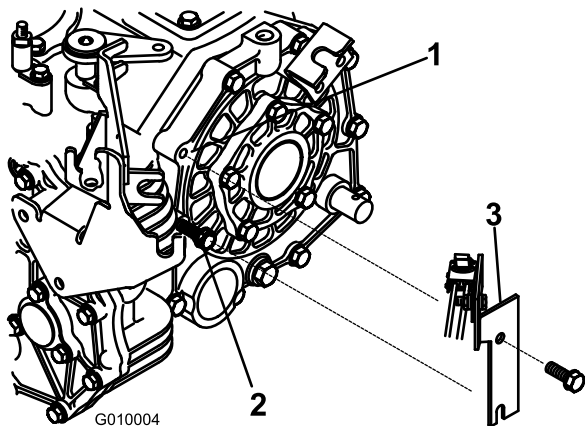

Figure 3
8. Remove the upper transmission bolt shown in Figure 3.
9. Loosen the lower transmission bolt shown in Figure 3.
10. Secure the switch bracket to the transmission with the bolts loosened and removed (Figure 3). Torque the bolts to 16 ft-lb (N-m).